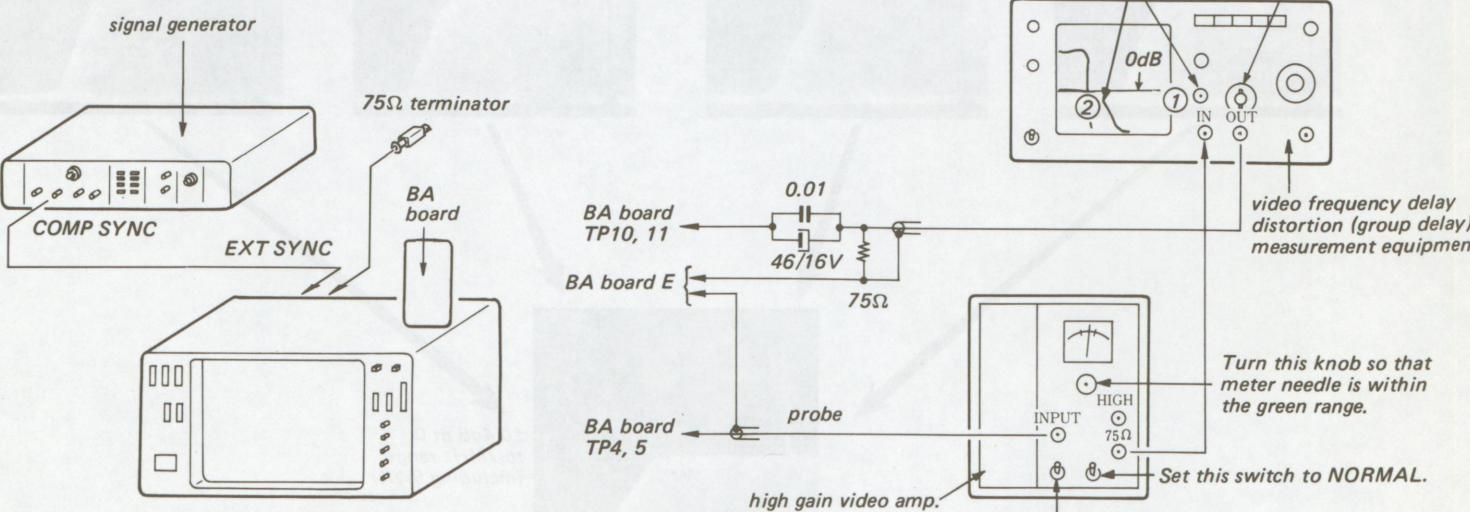

Fig. 5-47.
6. Complete the connections as shown in Fig. 5-47.
7. Connect the output of the group delay measurement equipment to TP 10 on the BA board via a capacitor and the probe to TP 4. (See Fig. 5-47.)